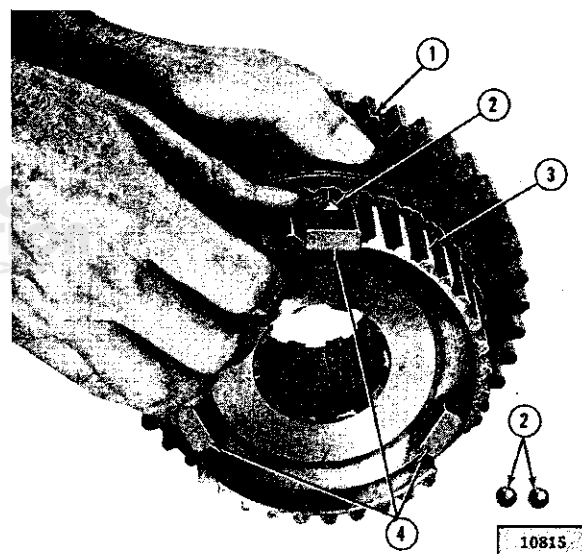

FIG. J1-6—ASSEMBLING SECOND-SPEED SYNCHRONIZER
c. Begin assembly of the second speed synchronizer assembly (see Fig. J1-6) by installing the low-and-second-speed clutch hub in the low-and-second-speed gear. Install the retaining ring in the speed gear. Install the retaining ring in the low and
Install the shifter plates and springs. Push the hub back into the gear until the springs touch the internal teeth of the gear. Push one of the shifter plates toward the center of the gear while installing ball. See Fig. J1-6. This will hold the ball in position. Install the other two balls in the same manner. Be careful when rotating the assembly to prevent the hub from slipping out of the gear. When the balls are installed, push the hub into the gear until the balls snap into the neutral position.